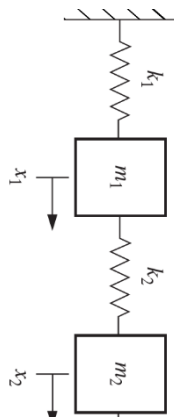

Fig. 1
- Q.1** (a) For the system shown in Fig. 1, $m_1 = 10$ kg, $m_2 = 1$ kg with spring stiffness $k_1 = 300$ N/mm and $k_2 = 50$ N/mm. Find natural frequency of the vibrations of the system, normal modes and equation of motions in terms of normal modes. **09**